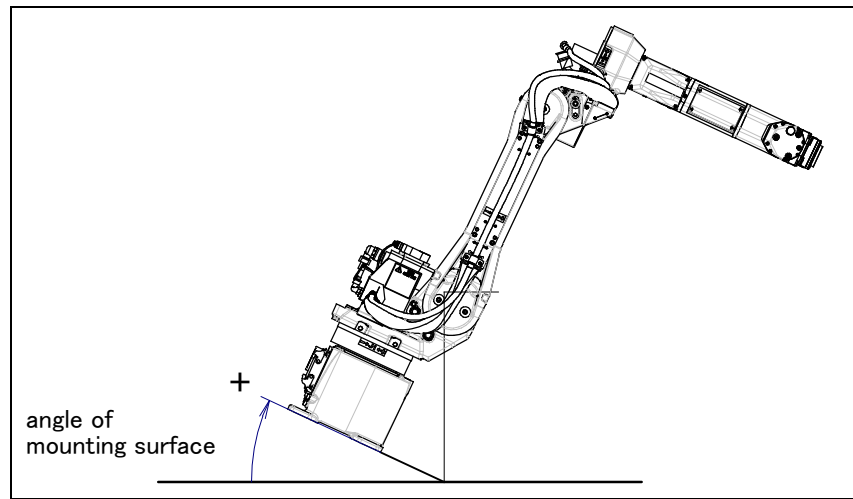

Fig. 1.2.2 Mounting angle
- 6 Input the mount angle referring to Fig.1.2.2.